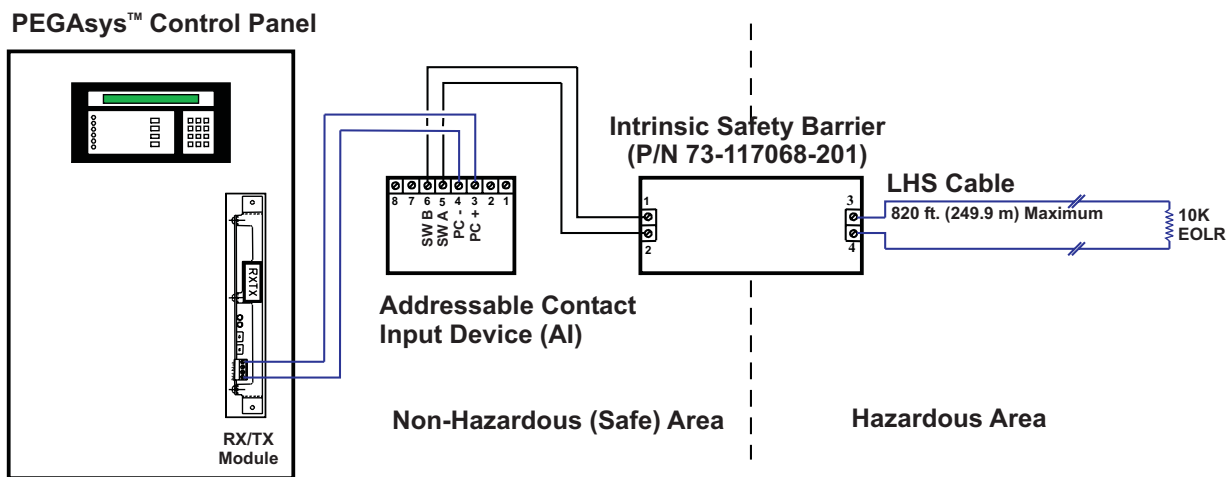

Figure 1. Typical Schematic Wiring Diagram
As shown in Figure 1, the Intrinsic Safety Barrier (P/N 73-117068-201) is used in Intelligent LHS applications where SmartOne® Addressable Contact Input Devices (AI) interface one circuit of the LHS cable to the PEGAsys™ Control Panel. Each Intrinsic Safety Barrier handles two conductors and hence only one Safety Barrier is required for each LHS circuit.